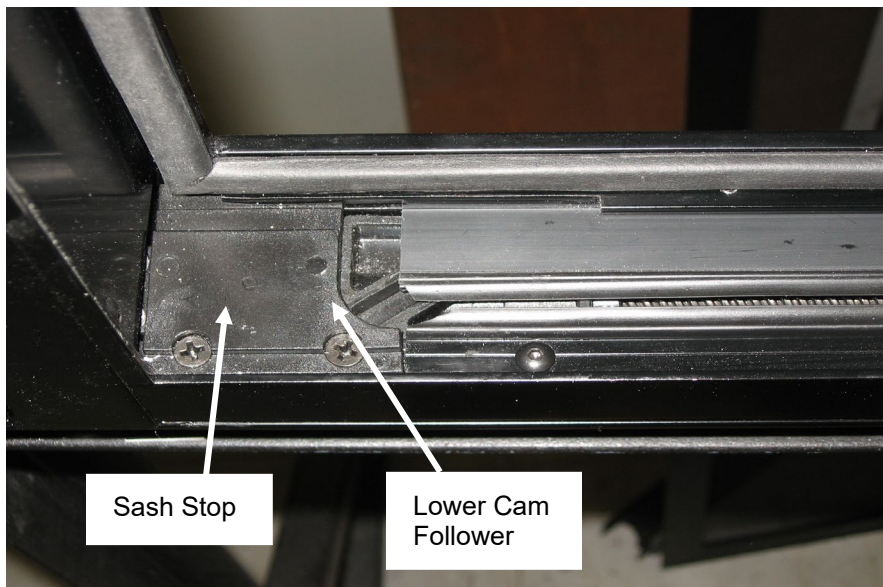

FIGURE 49: PROPER ALIGNMENT
1. Align the leading edge of the slot on the lower cam follower block with the sash stop. Use the power toggle switch to obtain the correct alignment. (Figure 49)